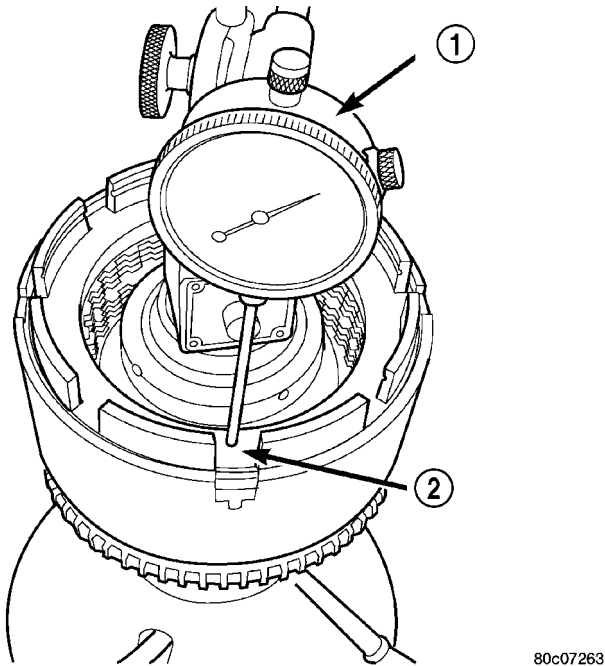

Fig. 241 Measure OD Clutch Pack Clearance
(25) Measure OD clutch pack clearance. Set up dial indicator on top of the OD/Reverse pressure plate as shown in (Fig. 241).